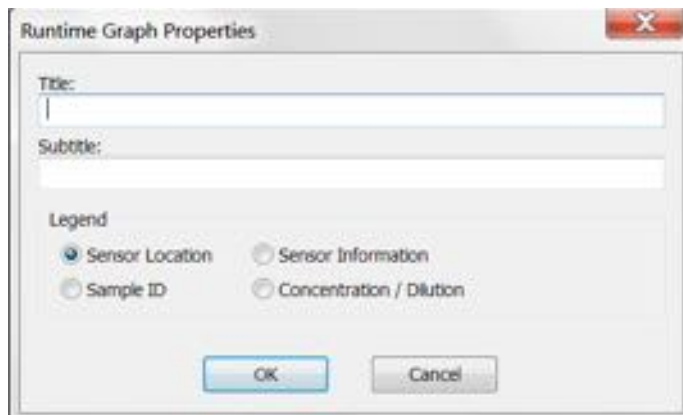

Figure 5-60: Selecting a Runtime Binding Chart Legend
2. In the **Runtime Graph Properties** dialog box (see Figure 5-60), select one of the following legends: